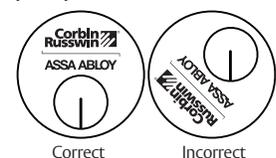

Figure 31
- Corbin Russwin logo must be horizontal and on top. (Figure 31)